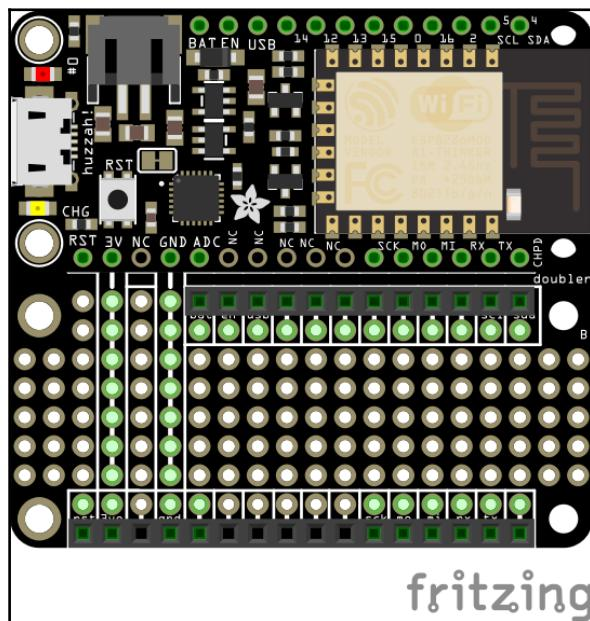

Figure 8.5: Placing the Adafruit Feather HUZZAH ESP8266 on the FeatherWing Doubler
2. Place the Adafruit Feather HUZZAH ESP8266 on the FeatherWing Doubler, as shown in the following figure (*Figure 8.5*):